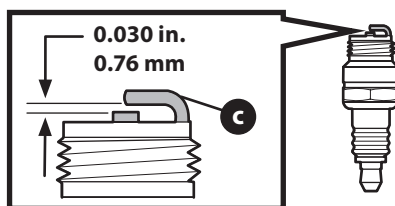

Figure 11
- Measure the plug gap with a feeler gauge. Correct as necessary by bending side electrode (c) (Figure 11). The gap should be set to 0.030 in (0.76 mm).